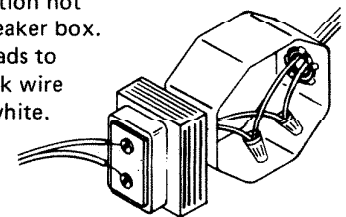

FIGURE 1
1. Mount the transformer to a convenient junction box (attic location not recommended) or circuit-breaker box. Connect the house-power leads to the transformer leads — black wire to black wire and white to white. See Figure 1.